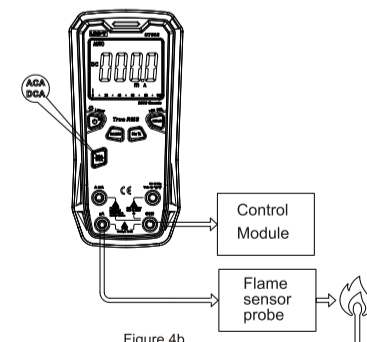

Figure 4b
- " μA " terminal can be used to heating system flame rectifier circuit detection (Figure 4b)